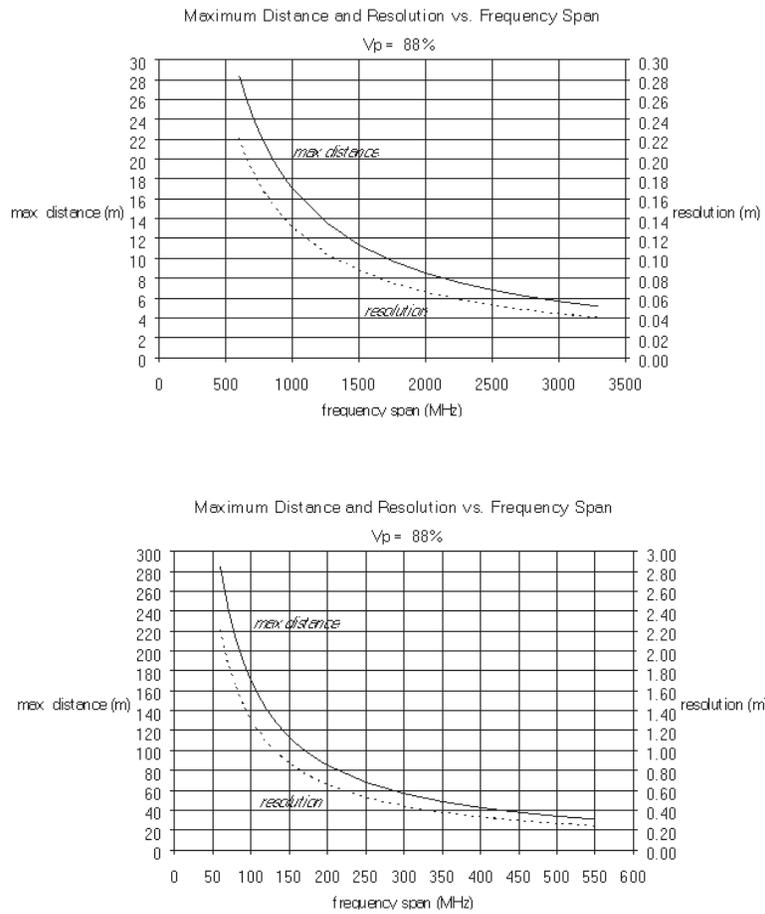

Figure 2-10. Maximum Distance and Resolution vs Frequency Span
*Refer to Figure 2-10, page 2-35, for a plot of maximum distance range versus frequency span.*